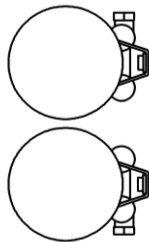

FIGURE 3A
10. Remove crossover pipe assembly from box and slide the (2) supplied 27-61MSC clamps over the expanded inlets. Refer to Figure 3A for clamp alignment.